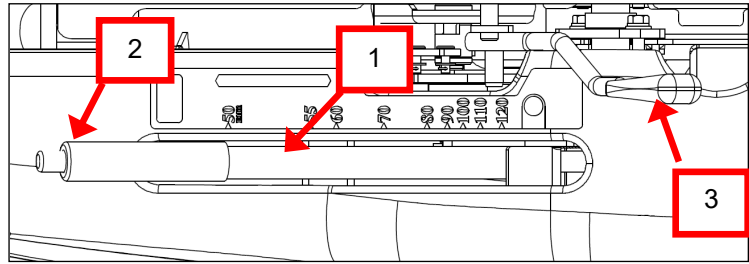

Figure 7
The highest position of the lever (1, Figure 7) match to the transport position. You can adjust the cutting height freely by pressing the push button (2) and the lever (1). When the lever position is high, the height of cut is high, when lever position is low, the height of cut is low.
Blade Clutch lever (3, Figure 7) make the engine drive the blade to mow. Pushing the lever forward make the blade turning. Pulling the lever on reverse to stop the blade. When using blade clutch lever, check that height of cut lever is in mowing position.